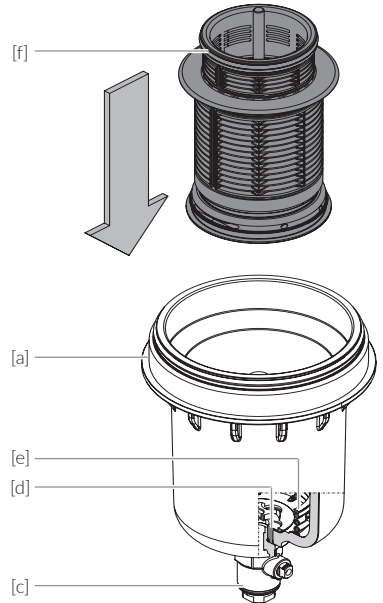

Fig. 9.10
- / Fig. 9.10: With the filter cup [a], the ball valve [c] as well as the washer [d] and cylindrical pressure spring [e] come off